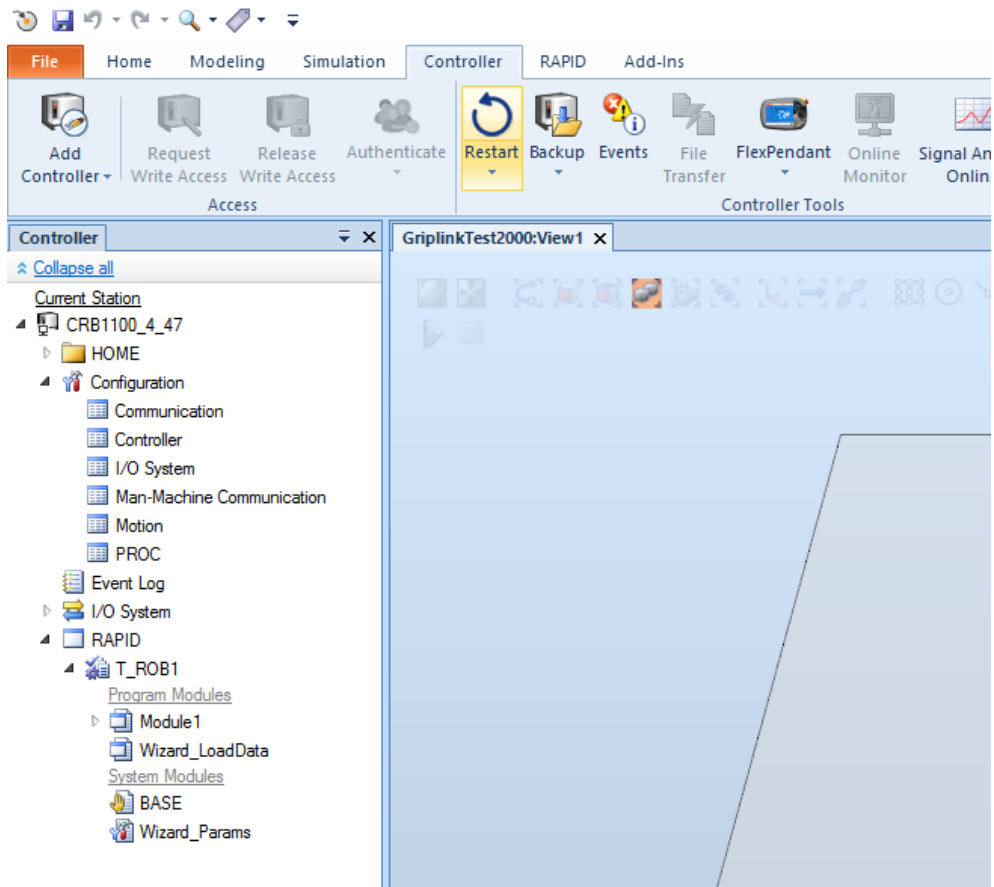

Figure 7: Restart controller
8. For the new settings to take effect, you’ll have to restart your controller (Figure 7). After that, the functions described below will be available for use.